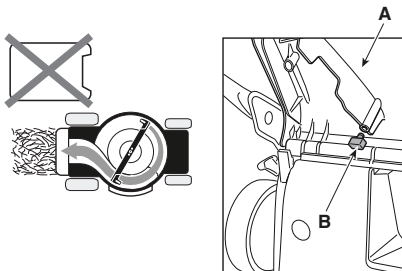

Figure 9
b. Preparation for mowing and grass rear discharge onto the ground (Figure 9)
Lift the rear discharge guard (Fig.9.A) and fit the pin (Fig.9.B).